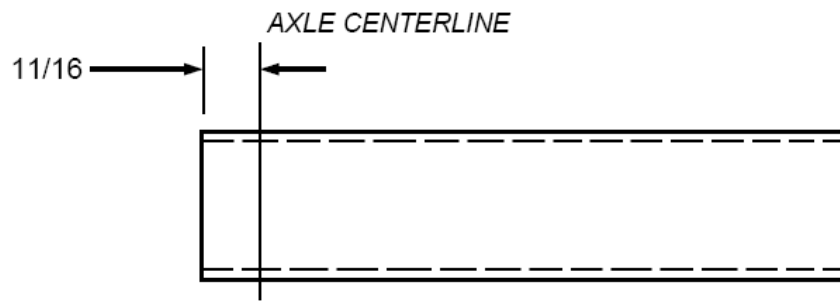
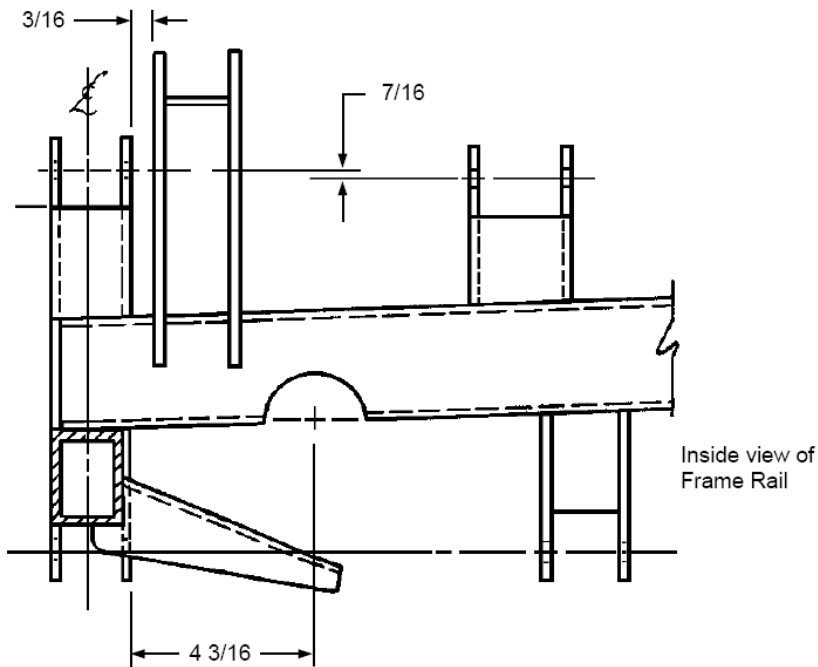

Figure 1- Mark Cut Line
Figure 2- Component Location & Fitment
3. Locate your axle centerline markings. Make a new mark 11/16" forward of the axle centerline mark. See **Figure 1**. This mark is to be a cut line, scribed around the rails exactly vertical to the ground (not necessarily square to the rails) and straight across the front from rail to rail. The crossmember has front plates on it which will cap the fronts of the rails, so you can see how the rails need to be trimmed. It is important that the crossmember be vertical, and not necessarily square to the rails themselves. This has to do with the caster and anti-dive. See **Figure 2**.
4. The crossmember can be trial fitted onto the rails now. The plates on the crossmember will cap the ends of the rails, and the rails should also fit up against the side uprights. If not, some fitting may be required. Once the crossmember is fitted correctly, again making sure that it is vertical, it can be tack welded in place. See **Figure 2**. It is not recommended to finish weld it in place at this time. The finish welding should be done only after the entire installation is complete and all the components are installed and lined up. Again, the old saying "measure twice, weld once" is the best way to success for your installation.
5. The lower control arm rear mounts should be installed next. To do this, the lower control arms should be installed into the front crossmember and will act as temporary alignment fixtures. Assemble the lower arm rear mounts and the temporary tie bar onto the control arms. The mounts should rest snugly against the underside of the frame. Some fitting may be necessary. The lower control arms should be horizontal, going straight back. A piece of 1/2" threaded rod should be used in place of the bolts for this step to insure straight alignment. The temporary tie bar will ensure that the spread dimension of the rear mounts is the same as the crossmember. Also check the measurements diagonally to be sure everything is square. If the mounts are tight against the frame pushing the lower arms down, grind/fit the mounts to the underside of the rails. Again, only tack weld them in place. See **Figure 2**. Remove the tie bar when done.
6. The upper control arm rear mounts are next. Again the upper control arms and tie bar become temporary alignment fixtures. Installation of the upper arms is slightly different, however, due to the adjustable ends. The spindles should be temporarily installed onto the lower control arms and the upper arm ball joints then slipped into the spindles. With the lower arms level, adjust the front adjusters in the upper arms to bring the camber of the spindles to 0°. Snug up the bolts on the front adjusters to align the front tubes straight out from the crossmember. This should give you 1° of caster, also. Now you can position the rear adjusters. They are set using the upper arm temporary tie bar to 26-1/4", which is the same spread as the front adjusters, but are located lower than the fronts by 7/16". See **Figures 2 & 3**. This rearward tilt of the upper arms is the anti-dive angle. A piece of threaded rod does not work here since the bolt holes in the main crossmember do not tilt downward. Bolt the tie bar onto the upper mounts and adjusters. Fit the mounts to the frame, keeping them vertical and spread dimension correct when fitting them. Remove the tie bar when done.
7. Next install the coil-over rocker mounts. Position them back 3/16" from the front upper arm mounts, as shown in **Figure 2**. Again using the temporary rocker mount tie bar, space them apart 11-3/16" as shown in **Figure 4** and fit them to the frame. Once they are fitted, then tack weld them in place.
8. The C-Notch in the frame is the last part to do. Carefully layout the sides of the frame as shown in **Figure 2**. Again, it is better to cut a little at a time and grind a little to fit than to cut too much away. After the notch is cut out, install the rack and slip the C-notch pieces in to check the clearance around the rack boots. A minimum of 1/8" clearance around the rack boots should be provided as the boots move around slightly as the suspension travels.